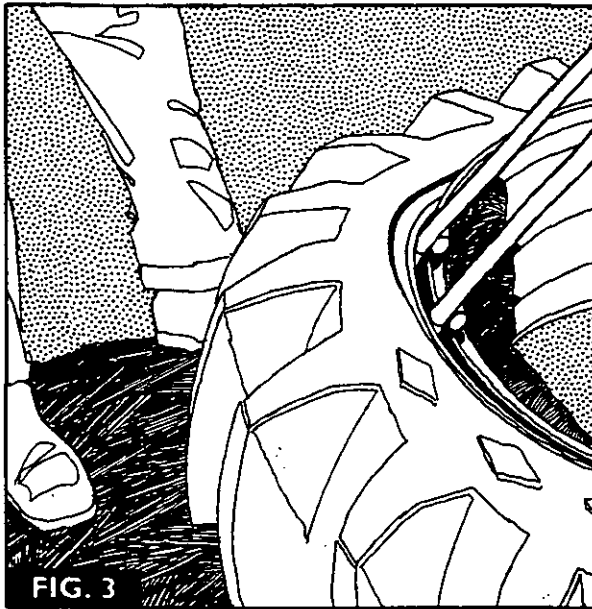

FIG. 3
6. Fig. 3. Starting at the valve location, pry the tyre off the rim, taking small bites with tyre levers, and ensuring that the bead on the opposite side is fully located in the mounting well.